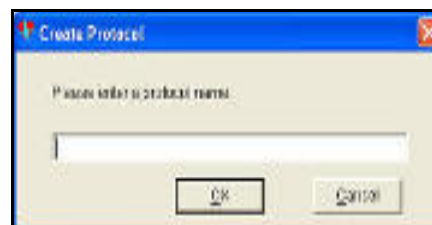

Figure 10-18: Example of the Create Protocol dialog box
6. After making all changes, click Save As. A dialog box (Figure 10-18) prompts you to name this protocol.